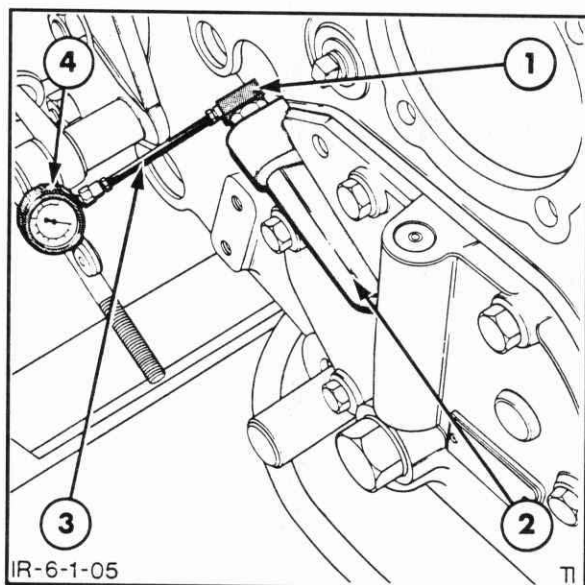

Figure 6-6
2. Install Adaptor Tool #FT4100-2 or 4657, Tube Tool #FT4100-1 or 1552 and the Pressure gauge, Tool #FT4100 or 0074 onto the pressure test port, Figure 6-6.
The PTO control valve pressure setting can be checked with the test equipment installed as for the brake pressure regulating valve, Figure 6-6. With the engine speed set to 2300 RPM, engage the PTO clutch and note the pressure gauge reading. If the pressure reading is not greater than that obtained for the brake pressure regulating valve or is not within the specified range, 220 - 230 PSI (15.2 - 15.9 Bar), the control valve pressure setting must be checked as follows: